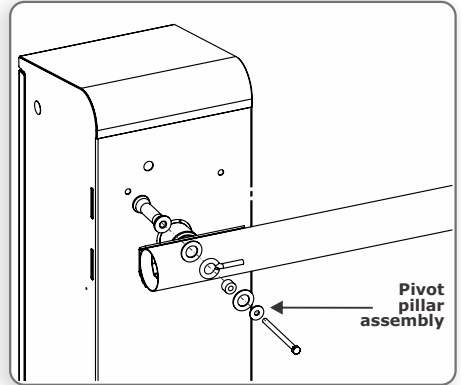

FIGURE 12
4. Assemble the pivot pillar components onto the barrier as shown in Figure 12.